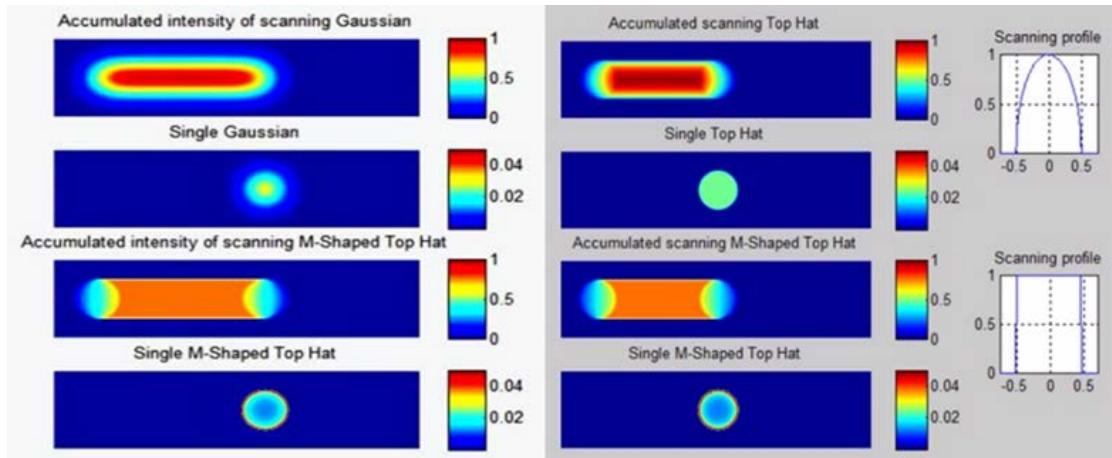

Figure 3: Left picture: Gaussian intensity profile vs. M-Shaped profile, in scanning mode.
- In principal, to get a flat-top scanning profile (as shown in Fig.3), optical designer needs to notice the following points: